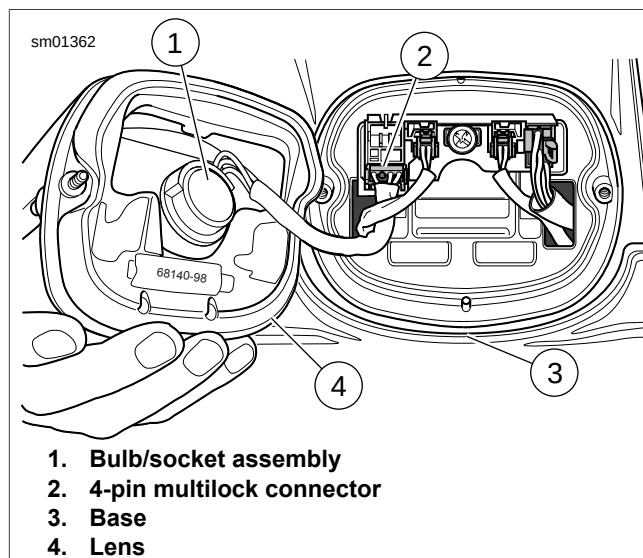

Figure 6-44. Tail Lamp
- See Figure 6-44. Remove two screws and lens (4) from base (3).
- Turn socket assembly (1) one-quarter turn counterclockwise to release assembly from lens. Remove (pull) assembly from lens. Remove bulb from socket.